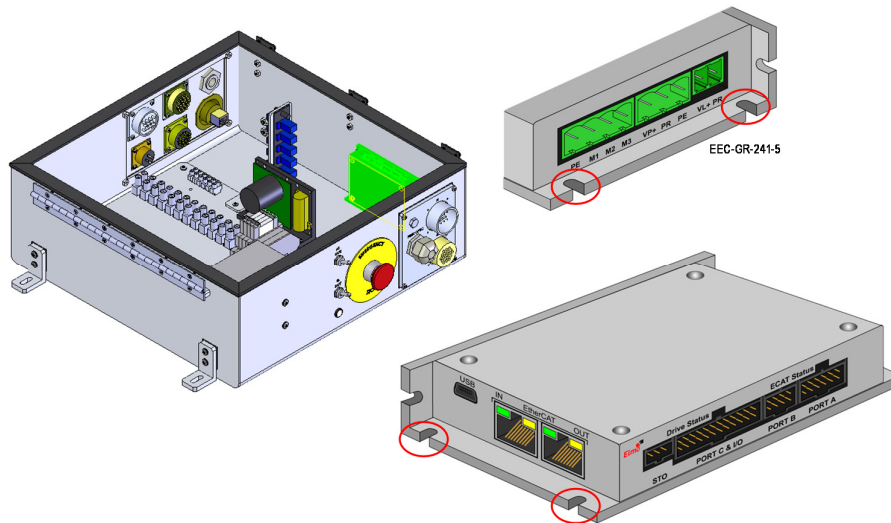

Figure 16. Servo Amplifier Removal
Disconnect the four (4) retaining screws using a Philips screwdriver that mount the Servo Amplifier to the Pedestal Plate Enclosure Assembly. See Figure 16, Red Circles.